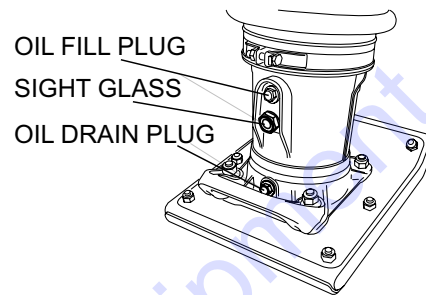

Figure 18. Oil Drain Plug
- Remove the oil drain plug on foot housing (Figure 18) and drain the oil. Refill with approximately 0.8 qt. (0.75 liter) of 10W-30 SE, SF or higher grade motor oil. Oil should be midway in sight glass. Break in oil should be changed after first 50 hours.